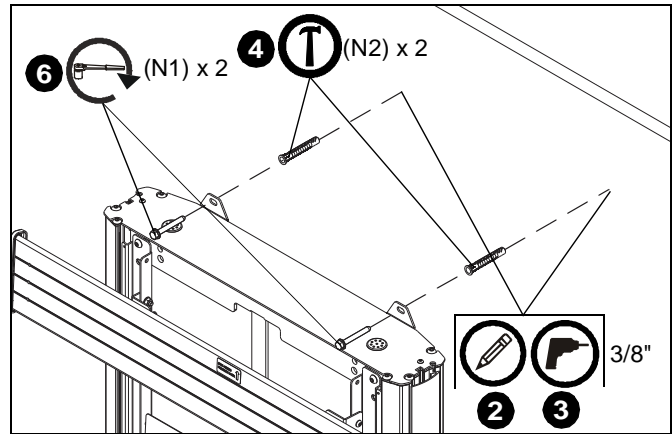

Figure 2
1. Place column assembly against wall at desired mounting location. (See Figure 2)
2. Mark hole locations at each mounting location. (See Figure 2)
3. Drill two 3/8" holes at marked hole locations. (See Figure 2)
making sure that the anchor is flush with the wall. (See Figure 2)
6. Install two 5/16 x 2 1/2" hex head cap screws (N1) through holes on attachment brackets and into anchors (N2) on wall. (See Figure 2)